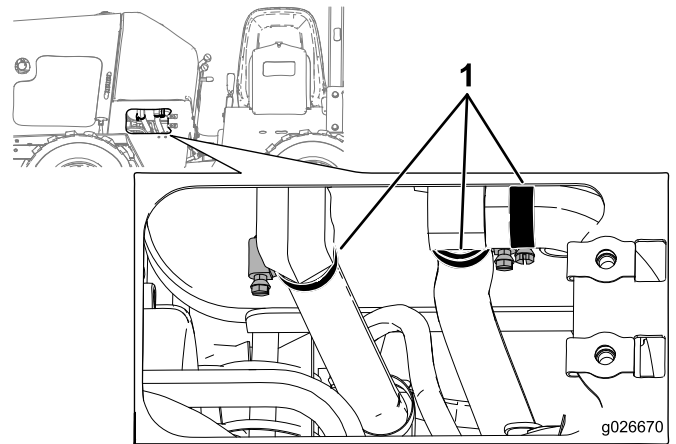

Figure 46
6. Remove the left side cover plate and loosen the 3 hose clamps under the hydraulic tank (Figure 46).